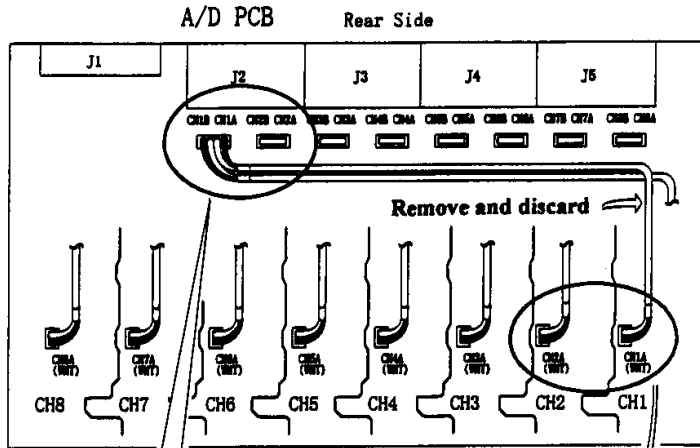

Fig.1
- ① Cut wire of CH1A and CH2A connectors and remove and discard it as shown in Fig.1.